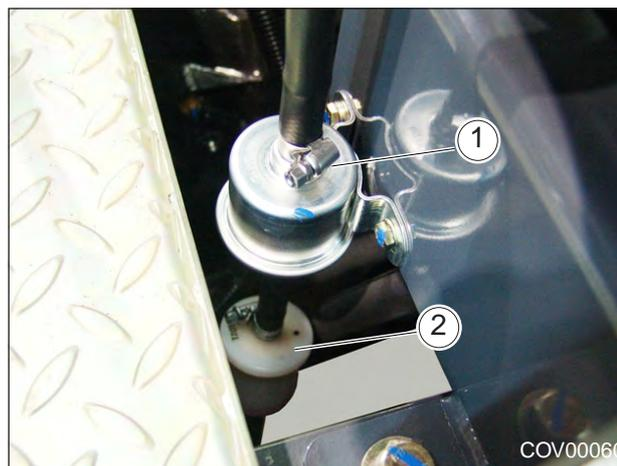

Figure 9.21 - In Line Fuel Filter
(3) Fuel Filter - In Line
.Refer to Figure 9.21.The in line fuel filter (2) is located below the electric fuel pump (1). is not a serviceable item and must be replaced. It is not possible to dismantle and clean the filter.